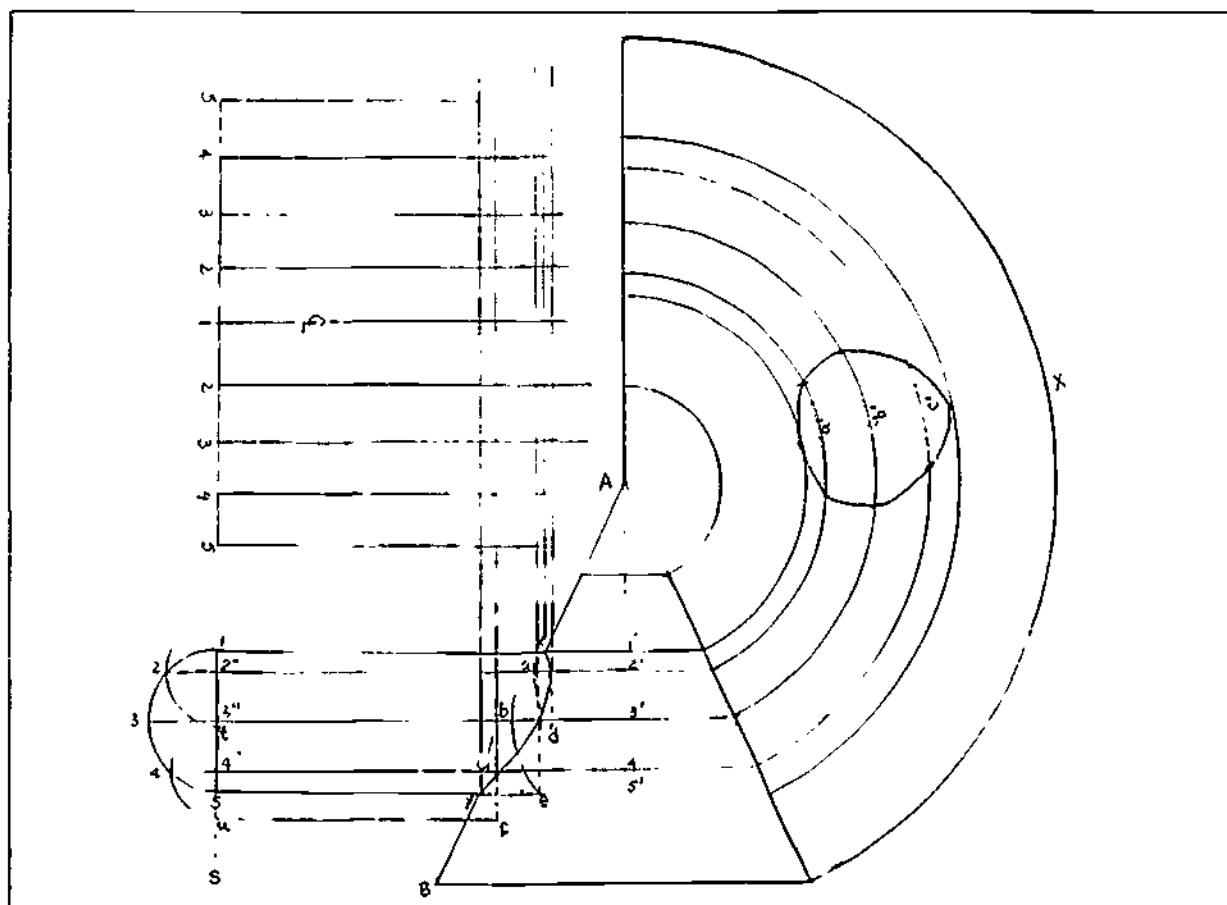

Figure 5-42. Right Cone with On-Centre Branch at 90°
- Step 1 Lay out the elevation as shown in Figure 5-42 and draw a semi-circle on the end of the branch cylinder
- Step 4 With centres 2'', 3'' and 4'', and lengths 2''2, 3''3 and 4''4, describe arcs to cut line 1-S at points t, 5 and u as shown in Figure 5-42. Project these points horizontally to the cone centre line. Where the projected lines cut arcs ad, be and cf, erect verticals upwards to intersect lines 2''2', 3''3', and 4''4'. Where point d cuts line 2''2' identifies a true point on the mitre line
- Step 5 To develop the pattern for the branch cylinder, calculate the circumference of the cylinder and mark off this length on a line extending from the end of the branch. Divide this pattern base line into 8 equal parts and number as shown in Figure 5-42. In this case, line 5 was selected the seam line.